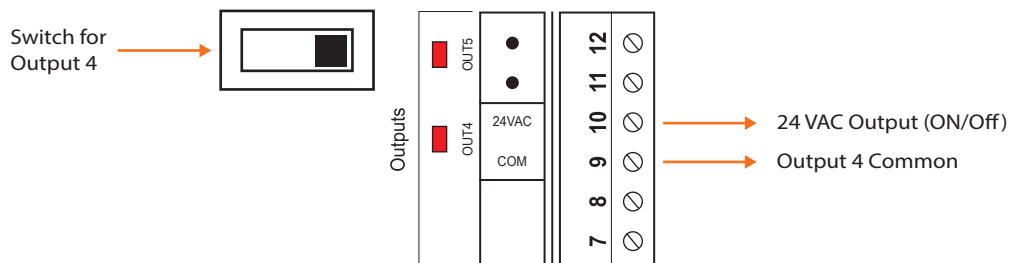

Figure 11 - Output in SOURCE mode
- 1) Switch position to obtain a SOURCE **active output** (see Figure 11):